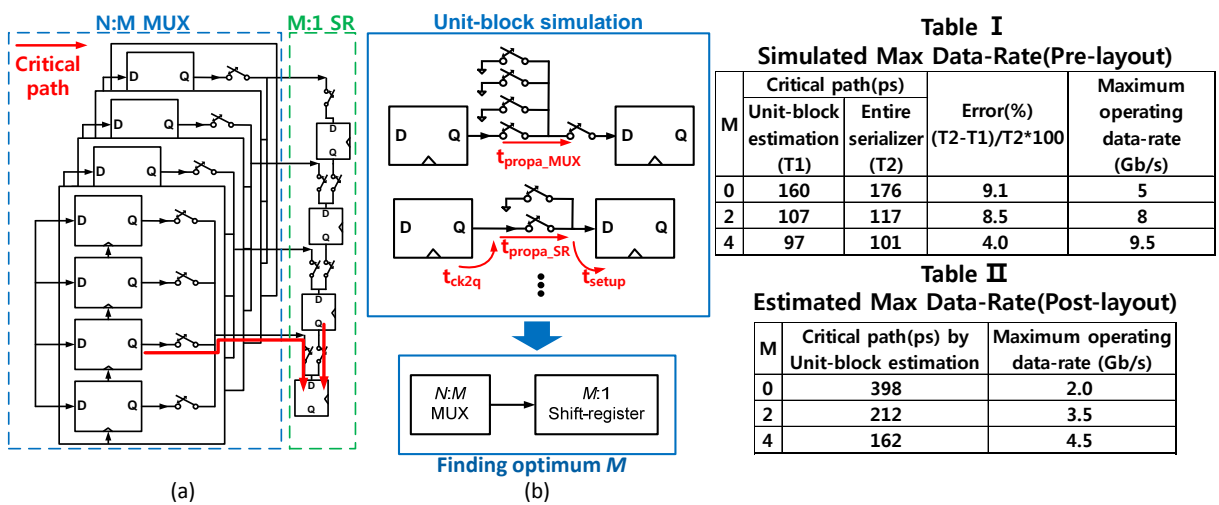

Figure 1. (a) Block diagram of serializer (b) Unit-block simulation for finding optimum  $M$
Power consumption optimization for serializers is very important for achieving high-performance SerDes systems. For optimal design, the serializer architecture as well as unit block structures must be carefully selected. In this paper, we present design methodology for determining the optimum structure of  $N:1$  serializer in 65-nm CMOS technology. Serializers can be realized based on two different structures: multi-phase multiplexer (MUX) and shift register (SR). MUX is power-efficient but bandwidth limited, whereas SR is the opposite. Consequently, the front  $N:M$  serializer should be realized with MUXs and the back  $M:1$  with SRs as shown in Fig. 1(a). It is very important to determine the value of  $M$  for achieving optimal performance. The critical path can be analyzed so that the minimum value of  $M$  can be determined that provides the required operating data-rate. The critical path depends on each unit-block's timing delay and  $M$ . By simulating each unit-block shown in Fig. 1(b), the maximum operating data-rate of the entire serializer depending on  $M$  can be estimated. With this estimation, we can then determine the minimum  $M$  value with small effort for a given data rate. The verification of this approach is shown in Table I. The timing delay of critical path by unit-block estimation matches with that of the entire serializer within 9.1% error, which gives the estimated maximum operating data-rate. Table II shows the estimated maximum operating data-rate with post-layout simulation. With this table, we can determine the minimum  $M$  value for a given data-rate.